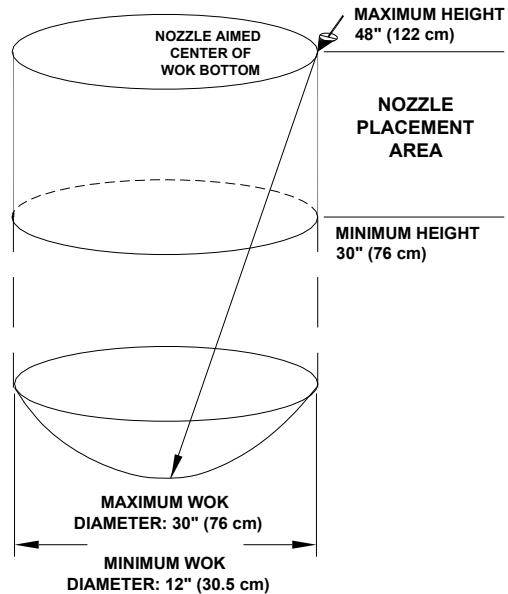

Figure 3-14b.
The **Model N-1HP** nozzle is a one (1) flow point nozzle that can protect a wok with a minimum diameter of 12" (30.5 cm) up to a maximum diameter of 30" (76 cm). The nozzle must be located 30" (76 cm) to 48" (122 cm) above the bottom of the wok and positioned anywhere over the cooking area. The nozzle must be aimed at the center of the cooking area. See **Figure 3-14b**.